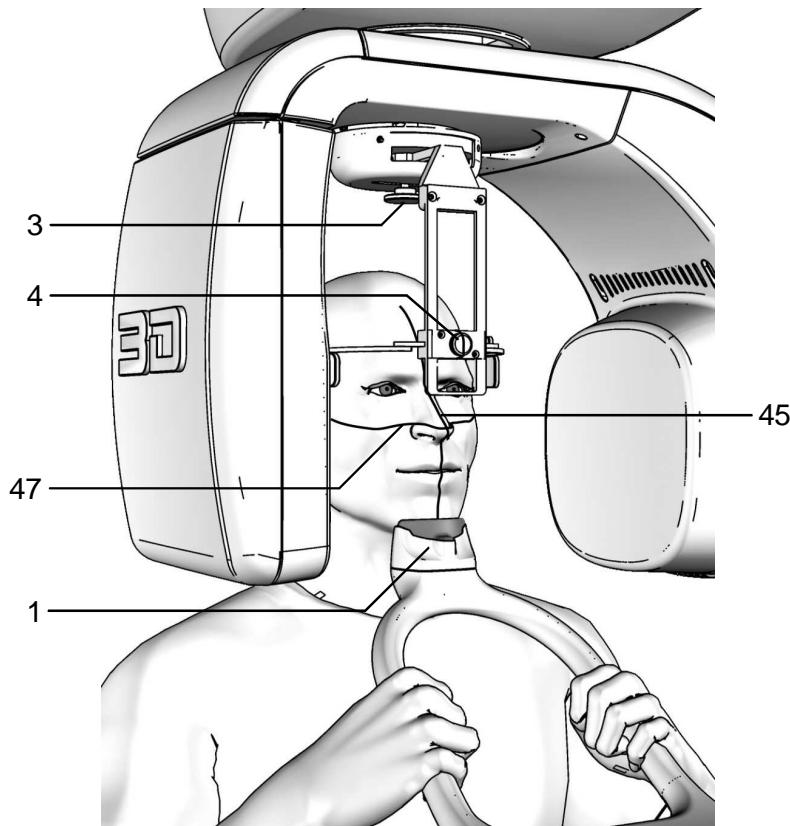

Figure 25 - 3D Dentition positioning
4. Verify that the temple clamp device is in the central position (Figure 14), and if necessary move it using the appropriate control on the top of the support (3 - Figure 25).
6. Place the patient in the temple clamp (Figure 25) by placing the chin on the surface of the relevant support; the hands should rest on the front handgrips.
9. Press the key "Centring devices ON" (14) .
(6)  to begin preparation for exposure.
10. Place the temple clamp in contact with the patient's head by means of the appropriate knob (4 - Figure 25). In order to help the patient maintain the correct posture, use the head strip on the temple clamp passing it behind the nape of the patient's neck; check that, during this phase, the patient has not changed position.
12. Press the key "Patient Entrance" (6)  to confirm the